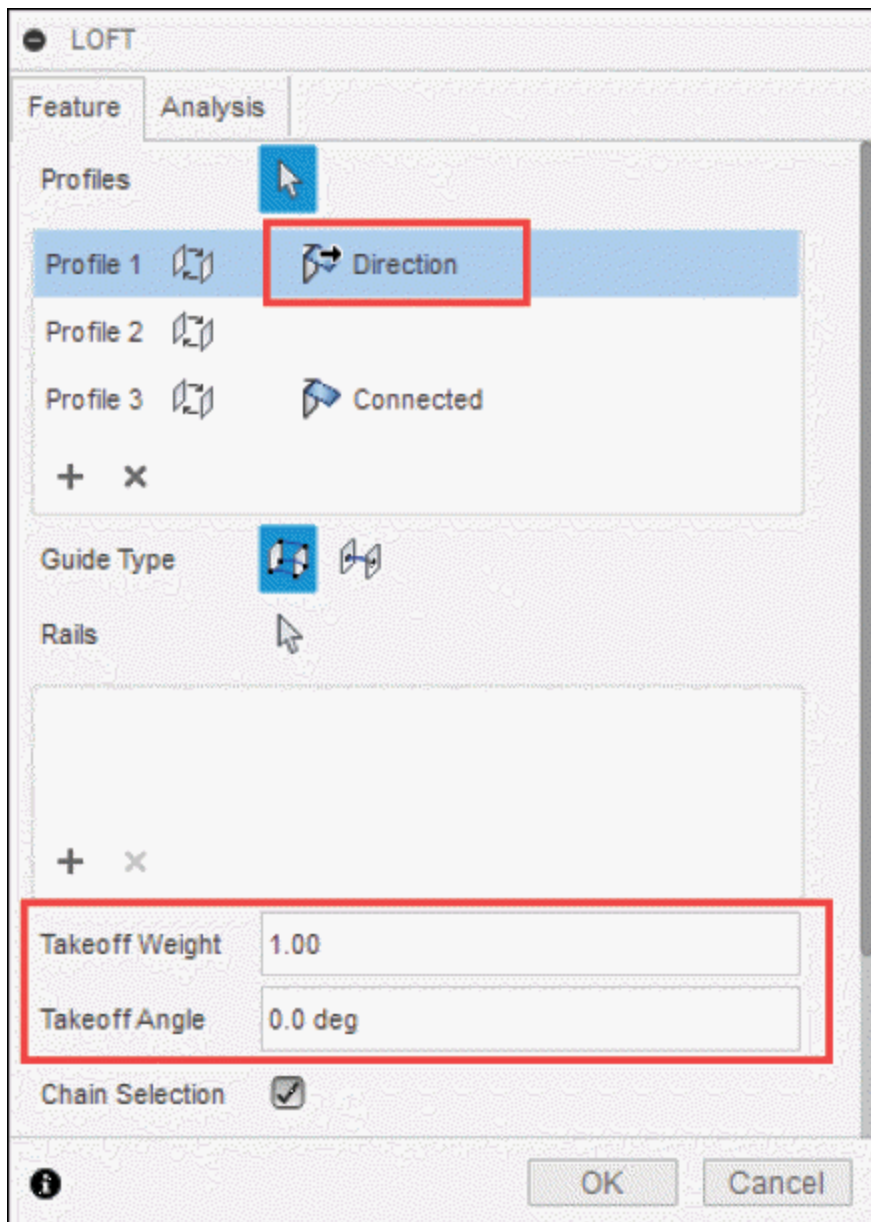

Figure-9. Updated LOFT dialog box
- Select the **Direction** option from the **End Condition** drop-down. The updated **LOFT** dialog box will be displayed with options to specify **Takeoff Weight** and **Takeoff Angle**; refer to Figure-9. As the name suggests, these options are